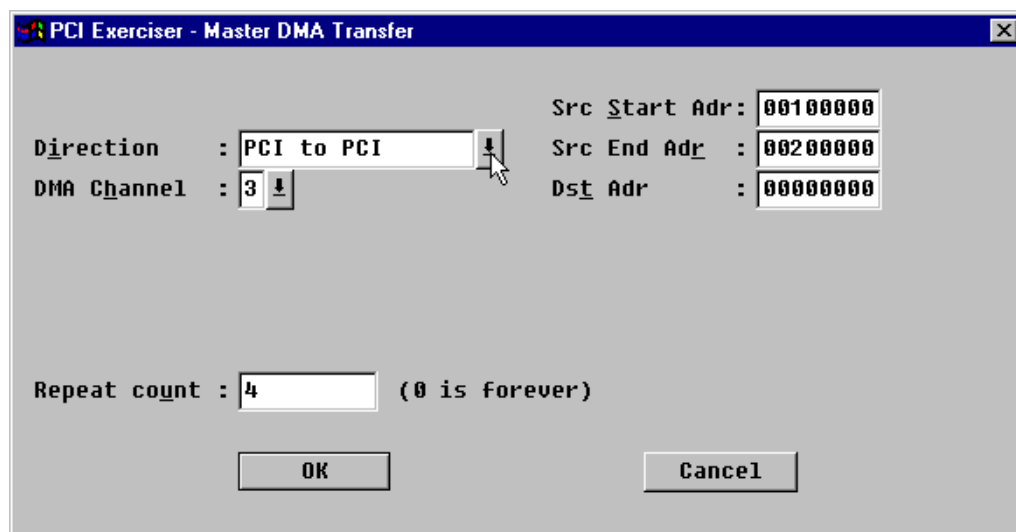

Figure 6.20 Master DMA command
**Master menu:** Select DMA Transfer from the Master menu, and the dialog box in Figure 6.20 appears.
If no DMA is active, and the DMA status line field is grayed, a single mouse click on the DMA field, will open the DMA dialog box in Figure 6.20, and a double mouse click will execute the DMA command with the last entered parameters.
**Master menu:** Select `TDMA Transfer` from the Master menu, and the dialog box in Figure 6.20 appears.